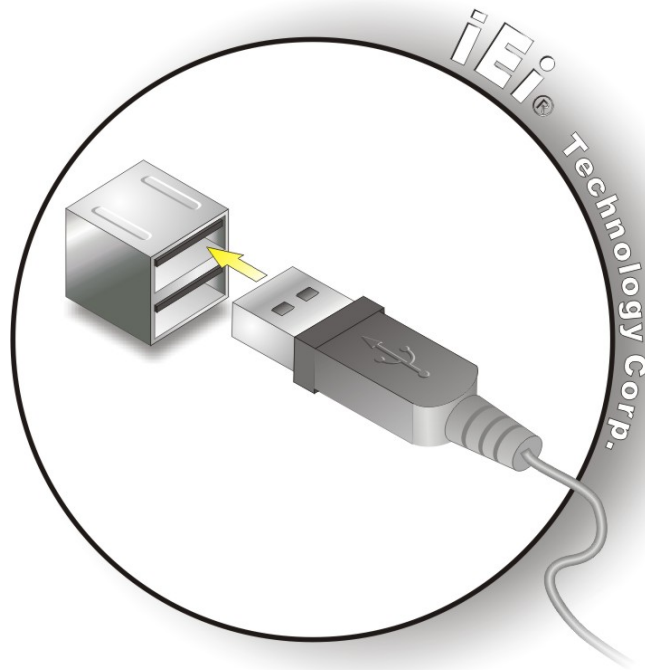

Figure 2-22: USB Device Connection
Step 2: **Align the connectors.** Align the USB device connector with one of the connectors on the bottom panel. See **Figure 2-22**.